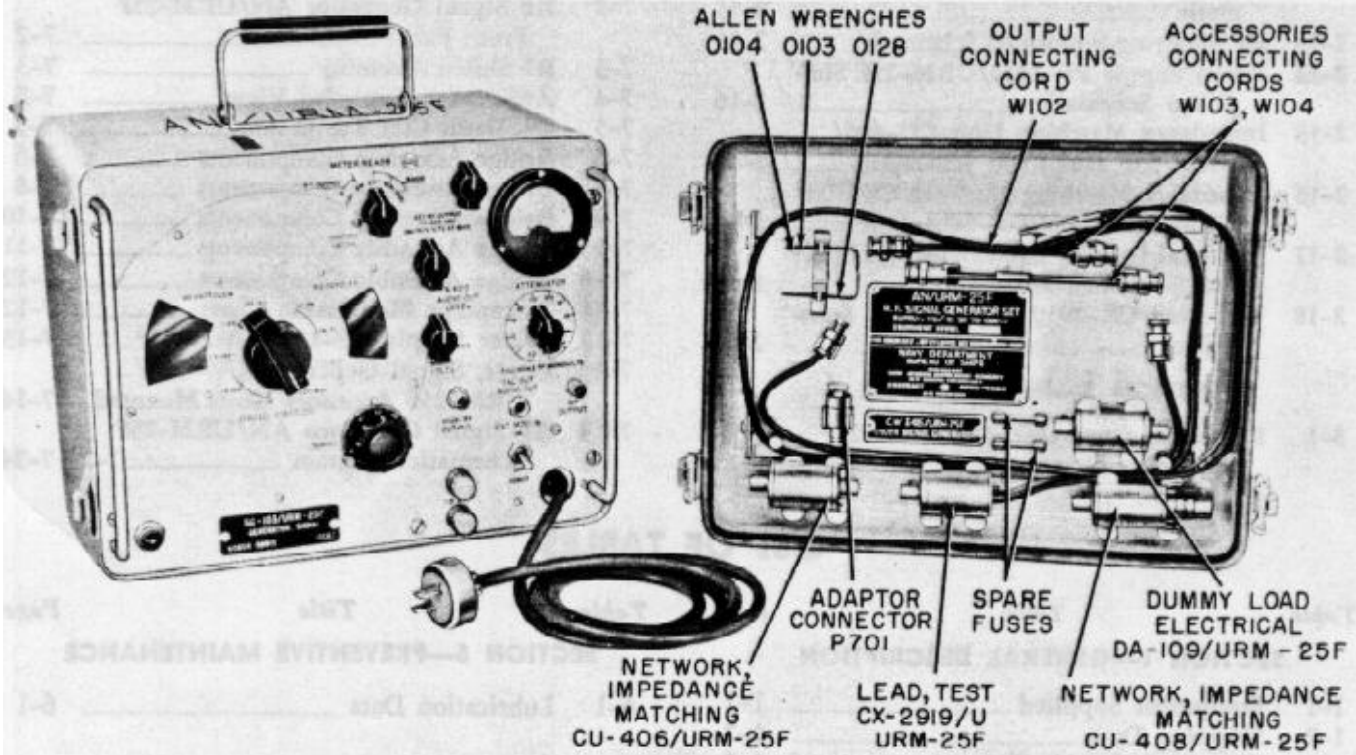

Figure 1-1. RF Signal Generator Set AN/URM-25F Complete Equipment with Accessories
b. All units, including the power supply, are incorporated in a single portable cabinet (see figure 1-1). The units supplied and their weights are listed in Table 1-1.
- (1) Generator, Signal.....SG-103/URM-25F
- (2) Power SupplyPP-1322/URM-25F
- (3) Cover, Signal Generator..CW-346/URM-25F
- (4) Network, Impedance Matching